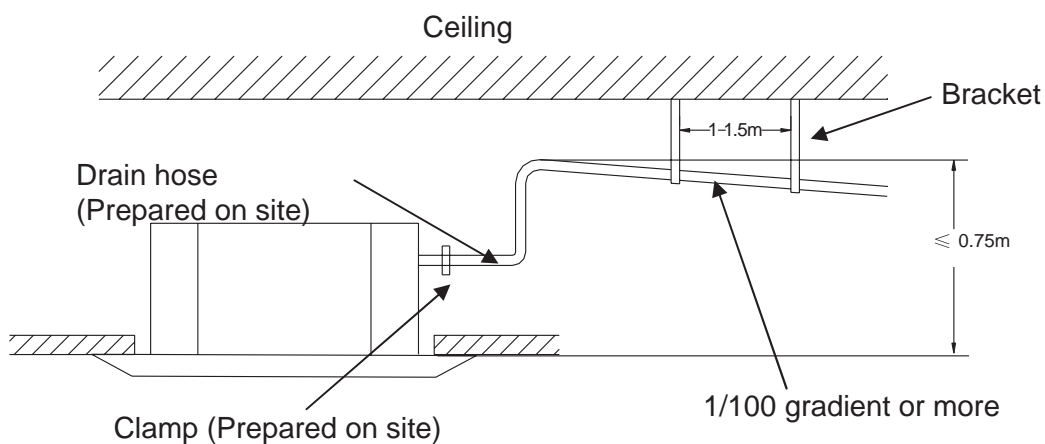

Fig.13
2. Make sure the drain pipe has a downward gradient (no less than 1/100) and there are no water traps (Fig.13).
3. To hold the drain pipe, space bracket every 1 to 1.5m.(Fig.13)